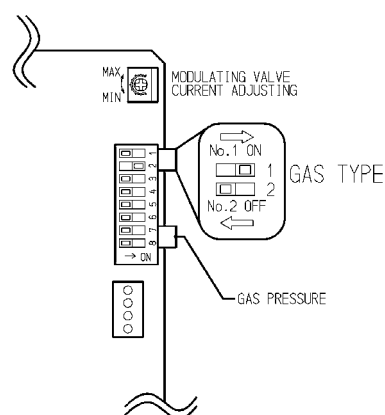

Fig. 1
4. Check gas type dip switches no.1 and no. 2 are in the correct position for the type of gas (Nat. or LPG)* you are using. See Fig. 1